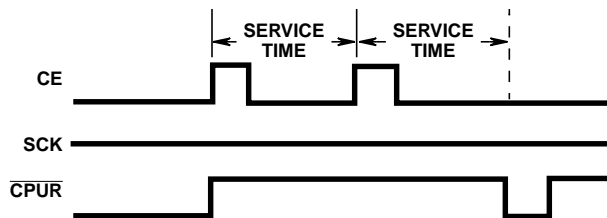

FIGURE 11. WATCHDOG OPERATION WAVEFORMS
3. Watchdog Reset (actually a non-transfer) Figure 11.
**Watchdog Reset - (See Figure 11)**